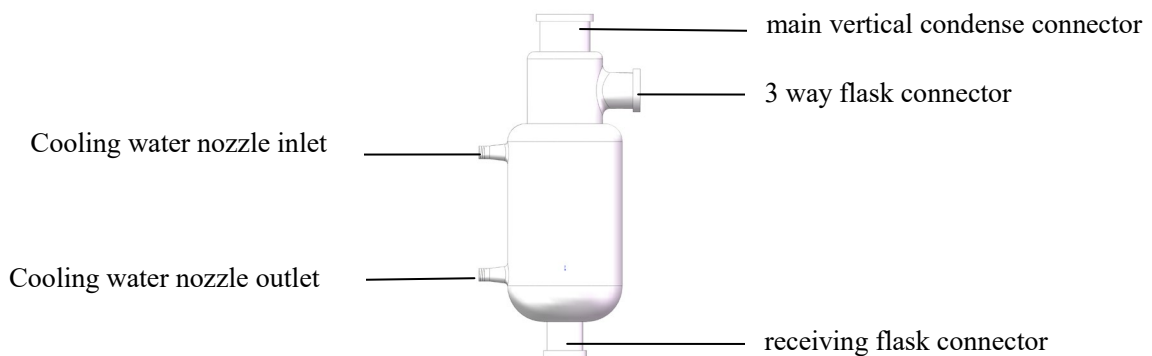

Figure 4
| (16) Secondary vertical condenser (Figure 4) | (17) Secondary vertical condense holder |  |